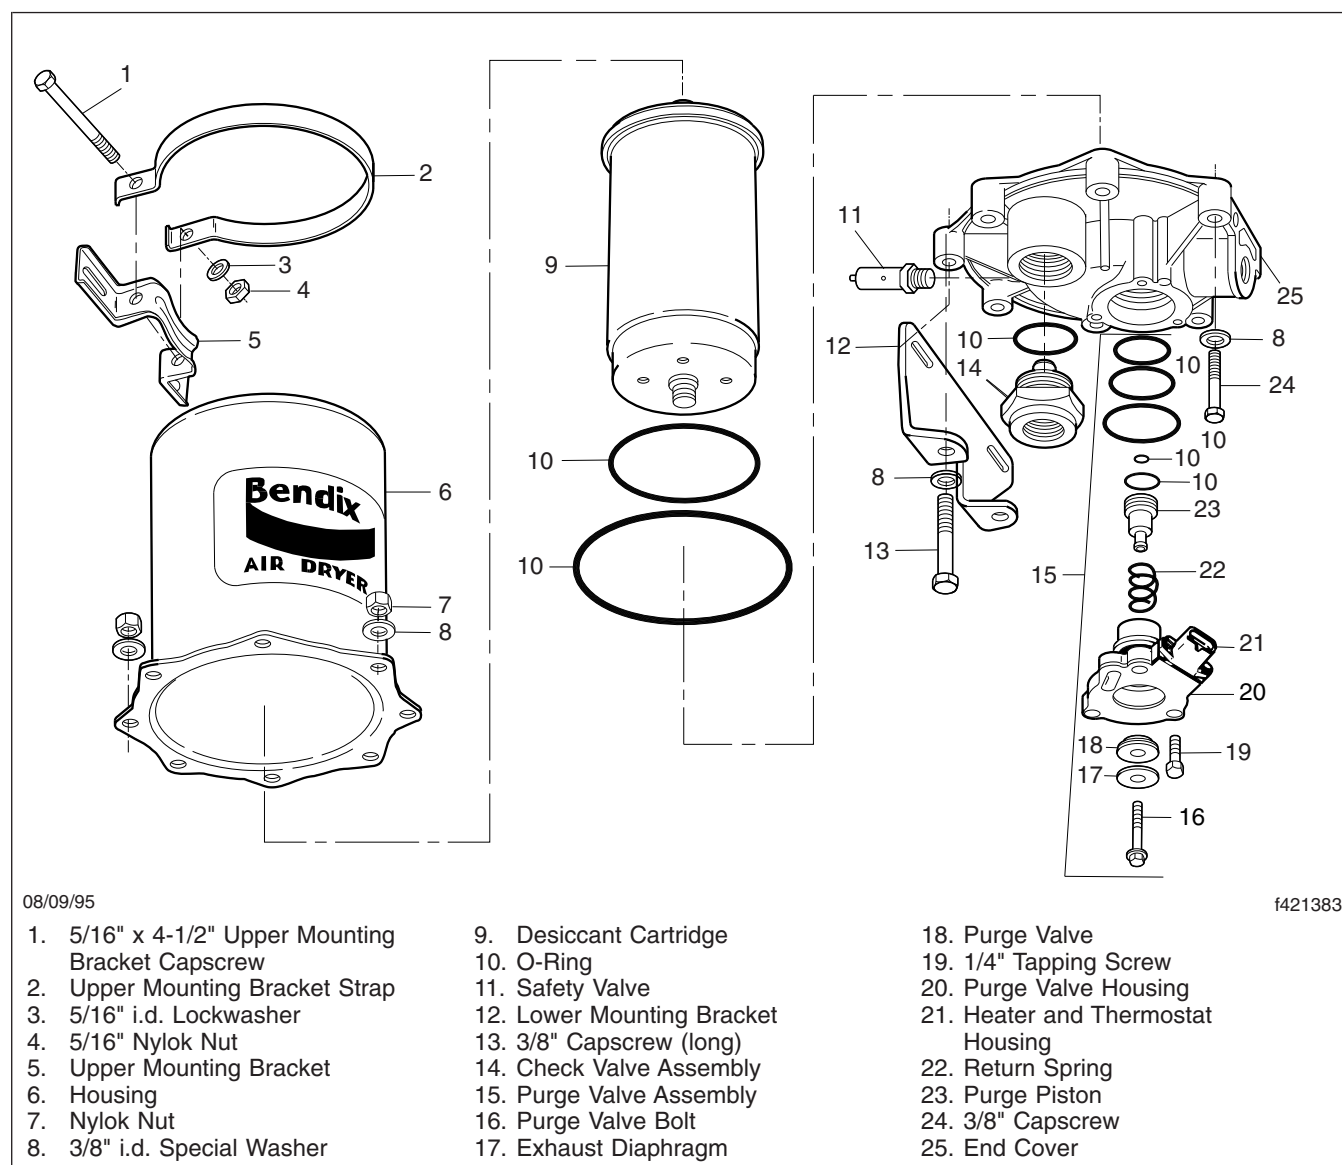

Fig. 2, AD-9 Air Dryer (exploded view)
8. Place the air dryer on a bench and remove the remaining 6 capscrews, 12 washers, 6 Nylok® nuts, and the air dryer housing; see **Fig. 2**. Discard the Nylok nuts. Remove the end-cover-to-housing O-ring.